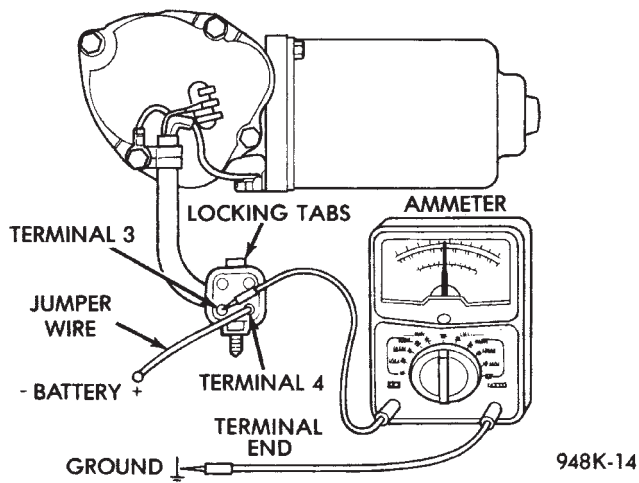

Fig. 11 Ammeter Test
- (2) Disconnect motor wire connector.
- (3) Check motor low speed. Using two jumper wires, connect one jumper wire between the battery positive terminal and Pin 4 of the motor connector (Fig. 10). Connect the other jumper wire to the battery negative terminal and Pin 3 of the motor connector (Fig. 11). Check motor high speed, connect the positive jumper wire to Pin 2 of the motor connector. Connect the negative jumper wire to Pin 4 of the motor connector.
(1) Disconnect wire connector at motor. Remove wiper arms and blades. Disconnect motor drive link from motor. Connect an ammeter between battery negative terminal and Pin 4 of the motor connector (Fig. 11). Connect battery positive wire to Pin 3 of the motor connector. When replacing drive link nut tighten to 11 to 12 N·m (98 to 106 in. lbs.) torque.
(1) Disconnect motor connector.
(2) If motor will not run on low speed, connect a jumper wire between battery positive terminal and Pin 3 of the motor connector. Connect a second jumper wire between ground and Pin 4 of the motor connector (Fig. 11).
(2) Using two jumper wires, connect one between the battery positive terminal and Pin 3 of the motor wire harness connect. Connect the second lead between battery negative terminal and Pin 4 of the motor wire harness connector (Fig. 11).